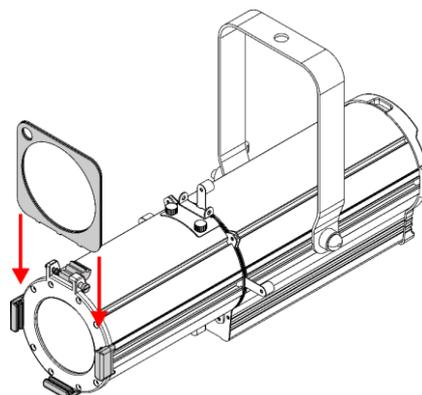

Fig. 07
- 03) Insert the color frame into the **color frame holders (04)** (see Fig. 07).